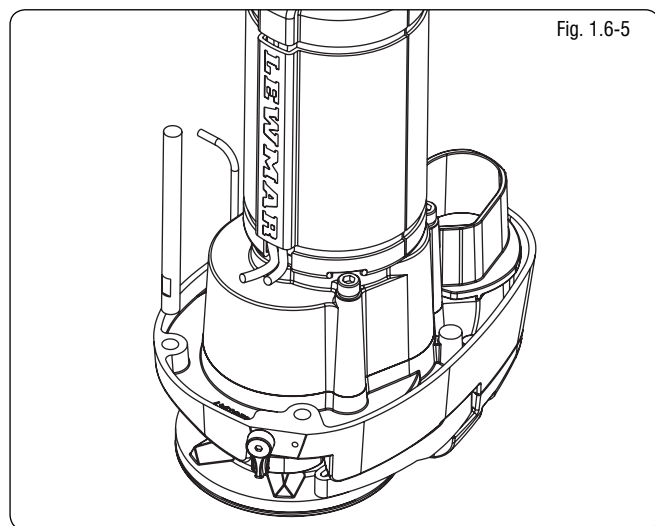

Fig. 1.6-5
- Fully screw the three mounting studs into the base of the windlass. This can be done, quite simply, using the multi-tool wrench supplied. Screw the studs into the base finger tight, with the flats towards the base as shown (Fig 1.6-5).